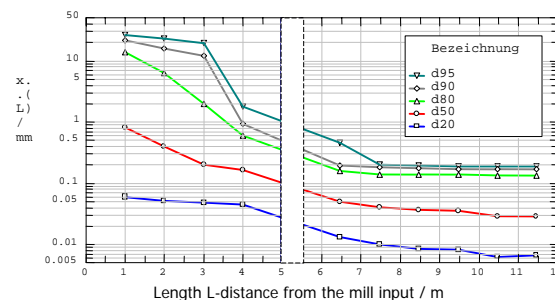

Fig.2: Grinding diagram - Course of quantile particle sizes
- ◆ the particle sizes for fixed passage values, e.g. d80, d50, ... (Fig. 2)